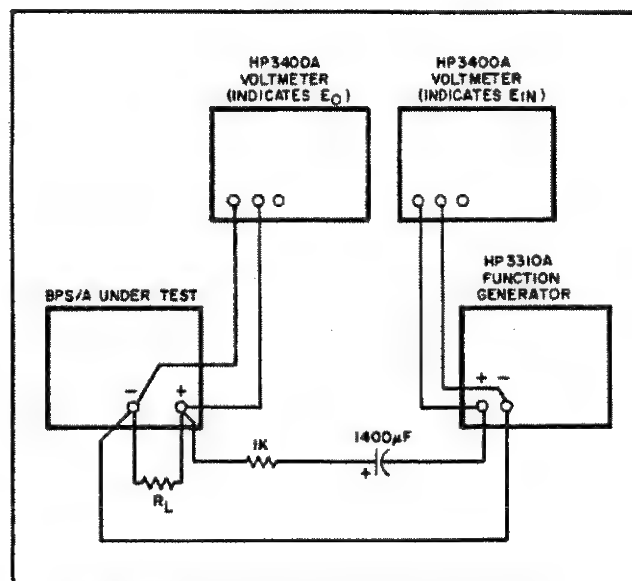

Figure 5-8. Output Impedance, Test Setup
- Connect test setup as shown in Figure 5-8.